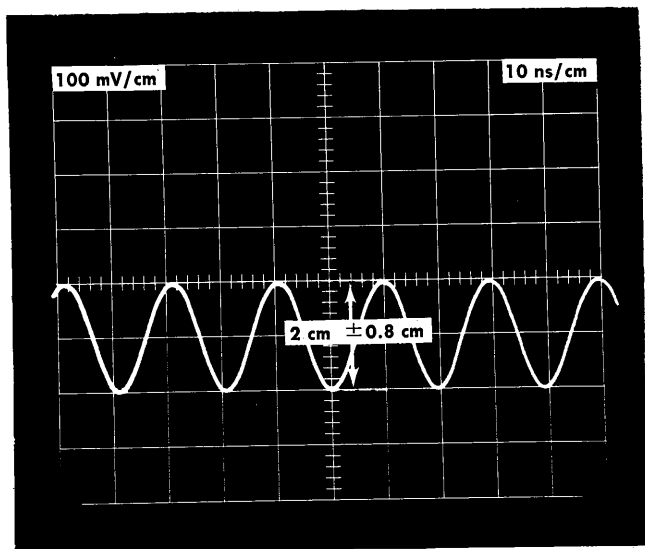

Fig. 5-8. Typical display showing Sine Wave Trigger Output signal.
e. Check—Sine wave trigger amplitude is within 2 cm  $\pm 0.8$  cm peak to peak (200 mV  $\pm 40\%$ ) see Fig. 5-8.